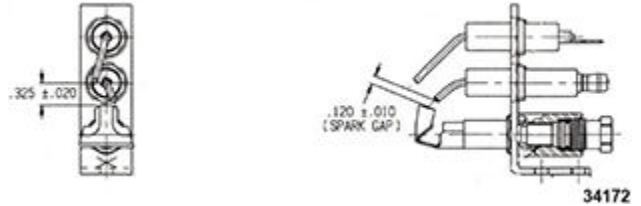

Fig. 130
- Spark gap between electrode and pilot burner head should be 0.120 in. +/- 0.010 in (Fig. 130), approximately 1/8".